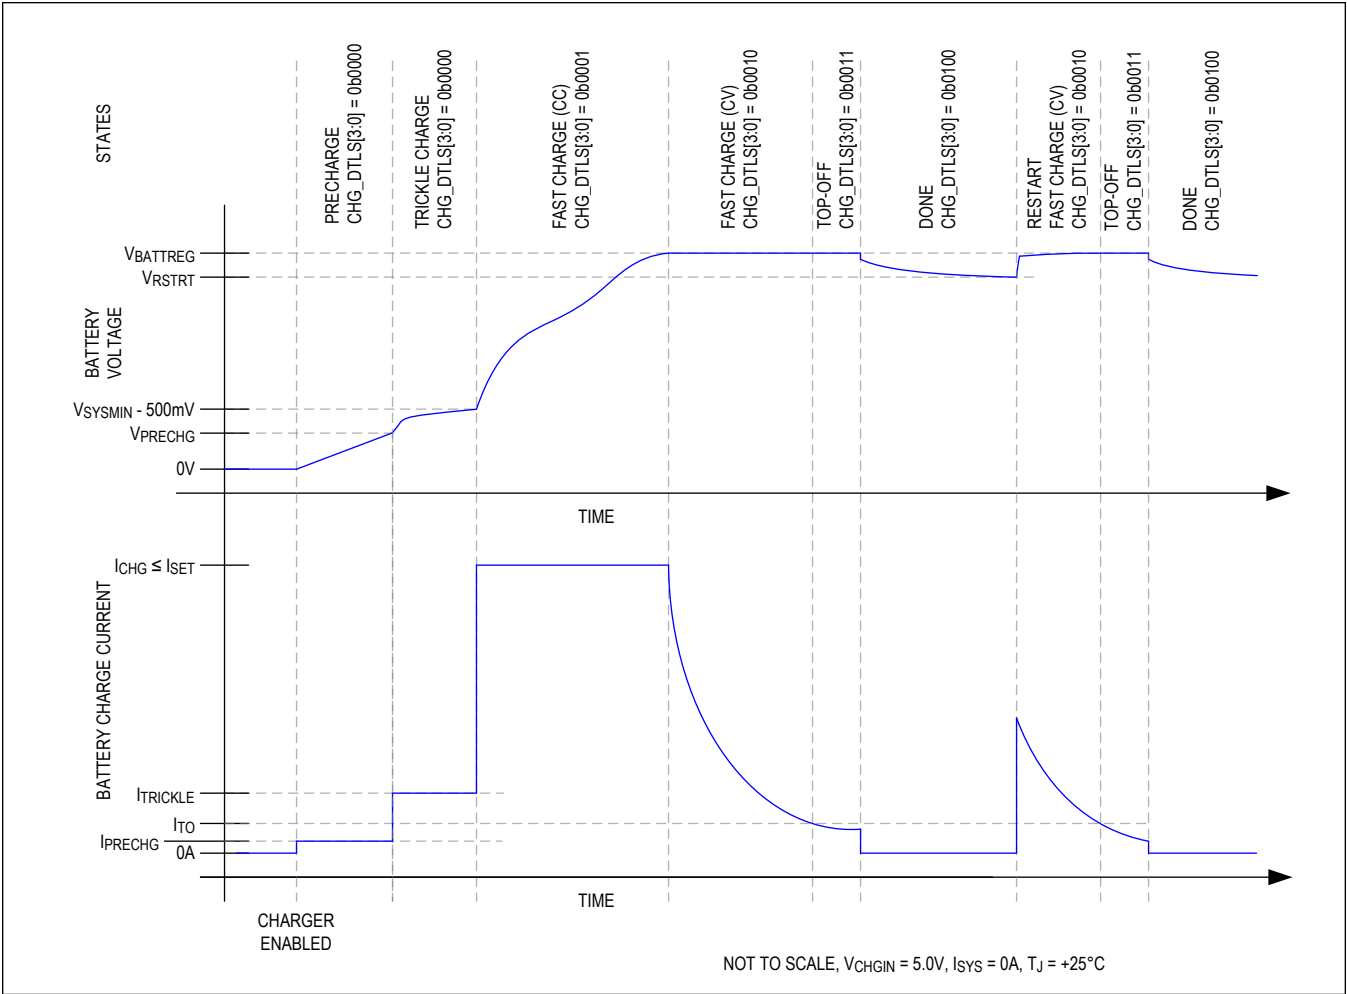
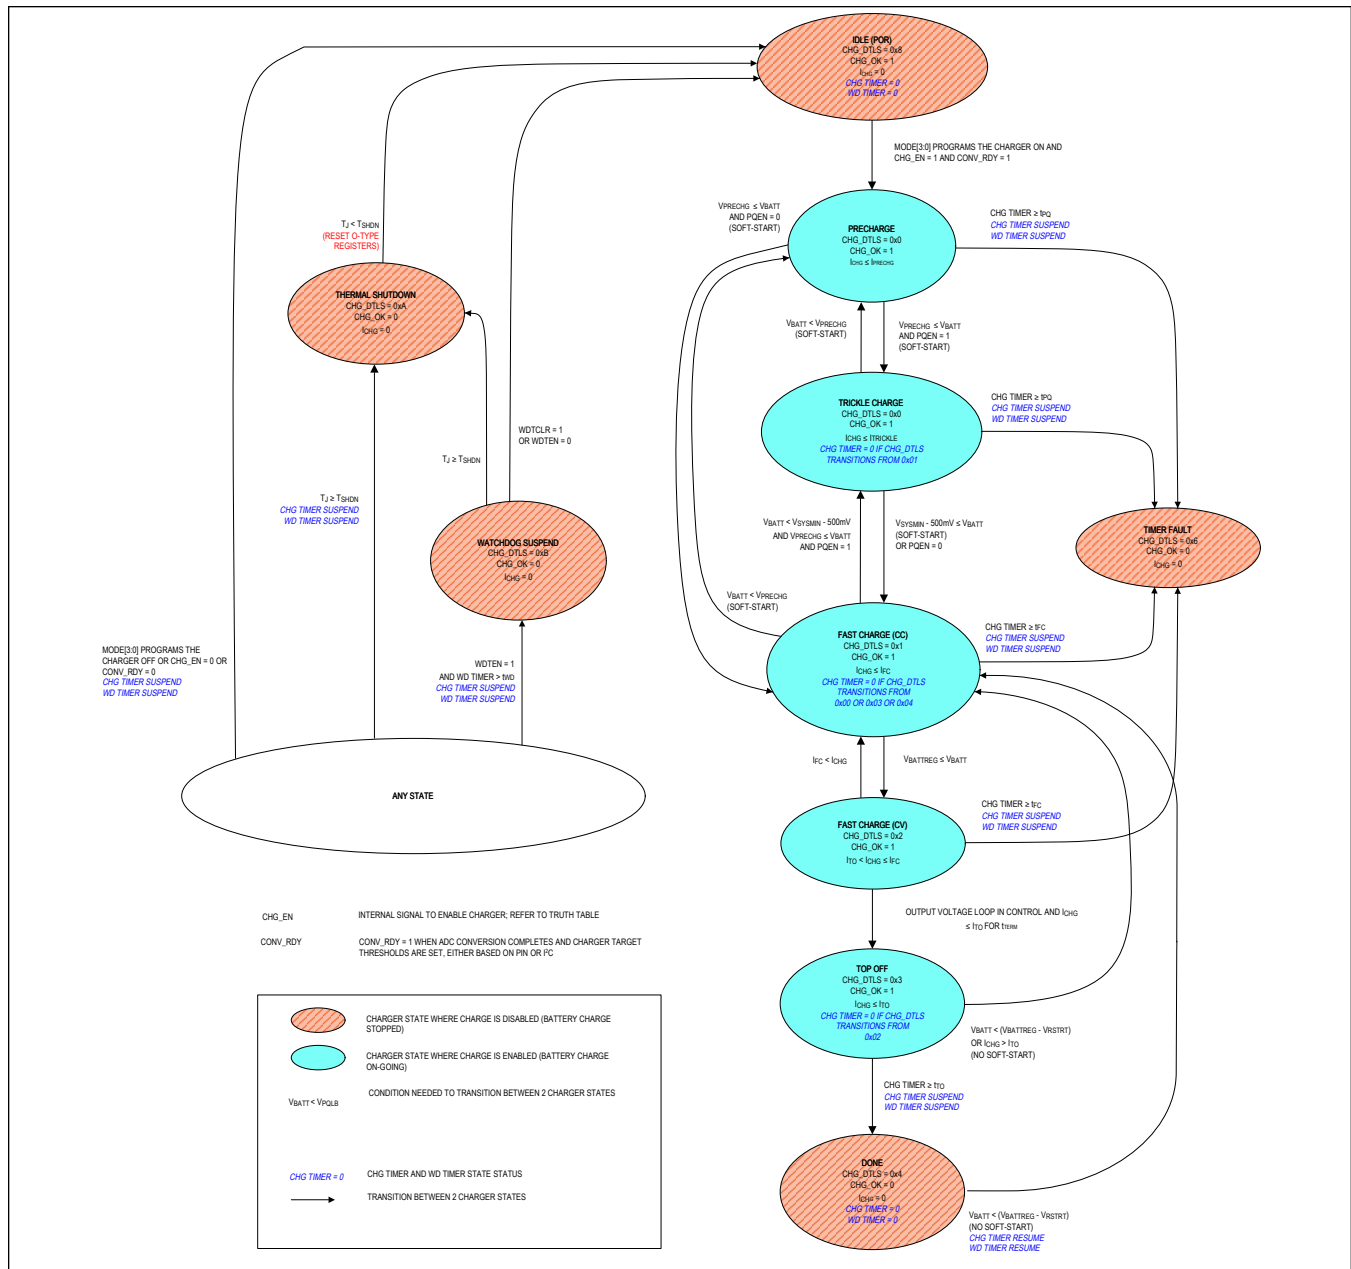

Figure 1. Li Battery Charge Profile
Figure 2. Charger State Diagram
The MAX77960B/MAX77961B utilize several charging states to safely and quickly charge batteries as shown in Figure 1 and Figure 2. Figure 1 shows an exaggerated view of a Li+/Li-Poly battery progressing through the following charge states when there is no system load and the die and battery are close to room temperature: Prequalification → Fast-charge → Top-off → Done.
From any state shown in Figure 2 except thermal shutdown, the no input power or charger disabled state is entered whenever the charger is programmed to be off or the charger input CHGIN is invalid. After being in this state for tSCIDG, CHG\_DTLS is set to 0x08 and CHG\_OK is set to 1. A CHG\_I interrupt is generated if CHG\_OK was 0 previously.
As shown in Figure 2, the charger enters the precharge state when the battery voltage is less than  $V_{PRECHG}$ . After being in this state for  $t_{SCIDG}$ , a CHG\_I interrupt is generated if CHG\_OK was 0 previously, CHG\_OK is set to 1 and CHG\_DTLS is set to 0x00. In the precharge state, charge current into the battery is  $I_{PRECHG}$ .
As shown in Figure 2, the charger state machine is in trickle charge state when  $V_{PRECHG} < V_{BATT} < V_{SYSMIN} - 500\text{mV}$ . After being in this state for  $t_{SCIDG}$ , a CHG\_I interrupt is generated if CHG\_OK was 0 previously, CHG\_OK is set to 1 and CHG\_DTLS = 0x00.
As shown in Figure 2, the charger enters the fast-charge constant current (CC) state when  $V_{SYSMIN} - 500\text{mV (typ)} < V_{BATT} < V_{BATTREG}$ . After being in the fast-charge CC state for  $t_{SCIDG}$ , a CHG\_I interrupt is generated if CHG\_OK was 0 previously, CHG\_OK is set to 1 and CHG\_DTLS = 0x01.
As shown in Figure 2, the charger enters the fast-charge constant voltage (CV) state when the battery voltage rises to VBATTREG from the fast-charge CC state. After being in the fast-charge CV state for tSCIDG, a CHG\_I interrupt is generated if CHG\_OK was 0 previously, CHG\_OK is set to 1 and CHG\_DTLS = 0x02.
In the fast-charge CV state, the battery charger maintains VBATTREG across the battery and the charge current is less than or equal to IFC. As shown in Figure 1, charger current decreases exponentially in this state as the battery becomes fully charged.
As shown in Figure 2, the top-off state can only be entered from the fast-charge CV state when the charger current decreases below ITO for tTERM. After being in the top-off state for tSCIDG, a CHG\_I interrupt is generated if CHG\_OK was 0 previously, CHG\_OK is set to 1, and CHG\_DTLS = 0x03. In the top-off state the battery charger maintains VBATTREG across the battery and typically the charge current is less than or equal to ITO.
As shown in Figure 2, the battery charger enters its done state after the charger has been in the top-off state for  $t_{TO}$ . After being in this state for  $t_{SCIDG}$ , a CHG\_I interrupt is generated only if CHG\_OK was 0 previously, CHG\_OK is set to 0 and CHG\_DTLS = 0x04.
The battery charger provides both a charge timer and a watchdog timer to ensure safe charging. As shown in Figure 2, the charge timer prevents the battery from charging indefinitely. The time that the charger is allowed to remain in its prequalification states is  $t_{PQ}$ . The time that the charger is allowed to remain in the fast-charge CC and CV states is  $t_{FC}$ , which is programmable with FCHGTIME. Finally the time that the charger is in the top-off state is  $t_{TO}$  which is programmable with TO\_TIME. Upon entering the timer fault state a CHG\_I interrupt is generated without a delay, CHG\_OK is cleared and CHG\_DTLS = 0x06.
The charger is off in the timer fault state. The charger can exit the timer fault state when the charger is programmed to be off then on again through the MODE bits or when DISQBAT pin is toggled from L-H-L. Alternatively, the charger input can be removed and reinserted to exit the timer fault state (see the ANY STATE bubble in Figure 2).
The battery charger provides both a charge timer and a watchdog timer to ensure safe charging. As shown in Figure 2, the watchdog timer protects the battery from charging indefinitely in the event that the host hangs or otherwise cannot communicate correctly. The watchdog timer is disabled by default with WDTEN = 0. Enable the feature by setting WDTEN = 1. With watchdog timer enabled, the host controller must reset the watchdog timer within the timer period ( $t_{WD}$ ) in order for the charger to operate properly. Reset the watchdog timer by programming WDTCLR = 0x01.
As shown in Figure 2, the state machine enters the thermal shutdown state when the junction temperature ( $T_J$ ) exceeds the device's thermal shutdown threshold ( $T_{SHDN}$ ). When  $T_J$  is close to  $T_{SHDN}$ , the charger would have already folded back the input current to 0A, (see the Thermal Foldback section for more details), so the charger and the DC-DC are effectively off. Upon entering this state, CHG\_I interrupt is generated if CHG\_OK was 1 previously, CHG\_OK is cleared, and CHG\_DTLS = 0x0A.